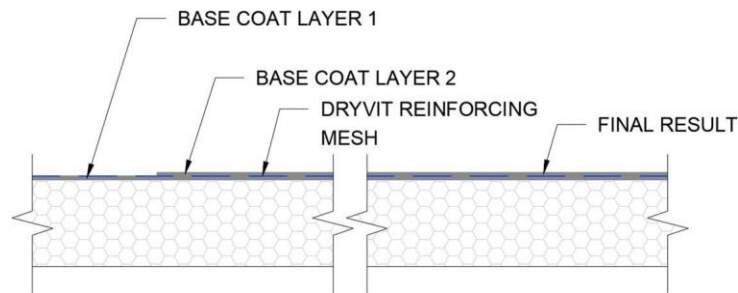

Fig. 32
- 3) Allow the base coat mixture to set up until firm to the touch. Trowel a second coat of the base coat mixture over the first coat to fully cover the reinforcing mesh – Figure 32. The result should be such that the reinforcing mesh is embedded in the middle of the base